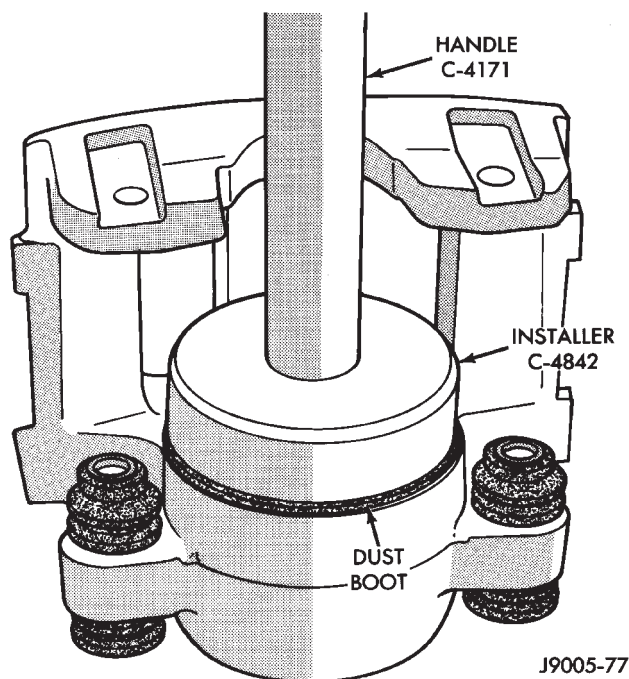

Fig. 21 Seating Dust Boot In Caliper
(7) Press caliper piston to bottom of bore.
(8) Seat dust boot in caliper with Installer Tool C-4842 and tool Driver Handle C-4171 (Fig. 21).
(9) Install caliper bleed screw if removed.